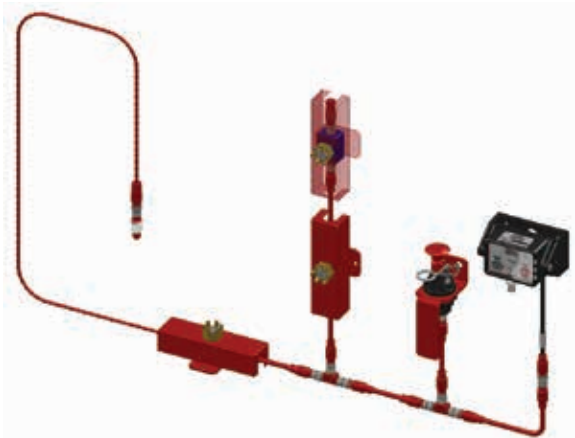

FIGURE 4-1
3. Plan route for the cable from the control module to the detection component end points (note end points for cable lengths) using the following rules (see Figure 4-1):